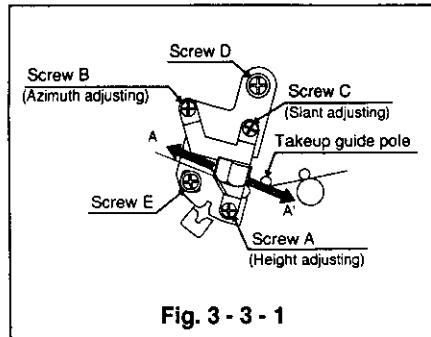
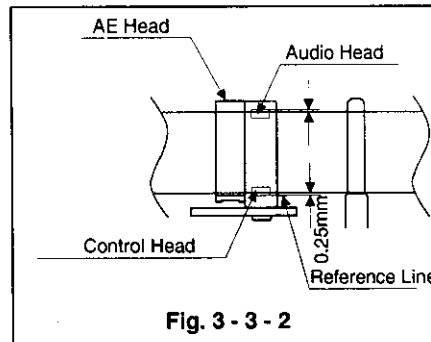

Fig. 3-3-1
Fig. 3-3-2
- ① If the height of the CTL head is different from the specified-value in Fig. 3-3-2, adjust the height by the adjusting screw A.
- ② If adjusting screw A is moved, repeat the procedure in Item 3-3-1 to adjust the A/C head Slant.
- ③ Connect the oscilloscope to the audio output terminal and set the VCR to the playback mode.
- ④ Playback the standard tape. [PM6K13 : 859C339O30]
- ⑤ Turn adjusting screw B to adjust azimuth so that the audio output level is maximum. Set the scope for an amplitude of 5 divisions.
- ⑥ After the adjustment of ⑤, pull out the screw driver and check if the audio output level is 4.5 divisions or more, when the maximum level (audio output) of ⑤ was set for 5 divisions.
- ⑦ If the audio output level is below the specified value, repeat the procedure ①-⑥.
- ⑧ Push the A/C head to the right and left (in the direction of A and A' in Fig. 3-3-1) and then release the A/C head. Check that the audio output level does not change. (Do not push past the point where the audio output level is reduced by 3/4 of its maximum value.)
- ⑨ Set the VCR to the playback mode and check if the change of the audio output level is less than 2dB.
- ⑩ If the change is over 2dB, adjust the A/C head slant again and recheck.
- ⑪ If not satisfactory, replace the takeup tape guide complying with the following procedure and repeat this adjustment.